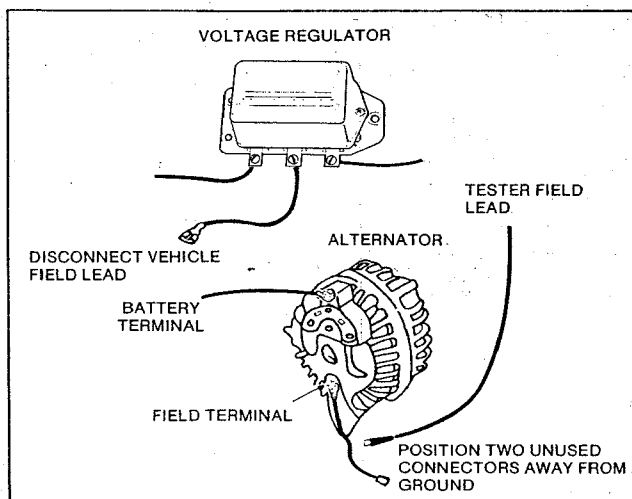

FIGURE 9. Field lead connections for testing the alternator.
- A. Stop engine and **disconnect the vehicle lead from the alternator field terminal** or disconnect the regulator connector plug if field terminal is inaccessible). See Figure 9.